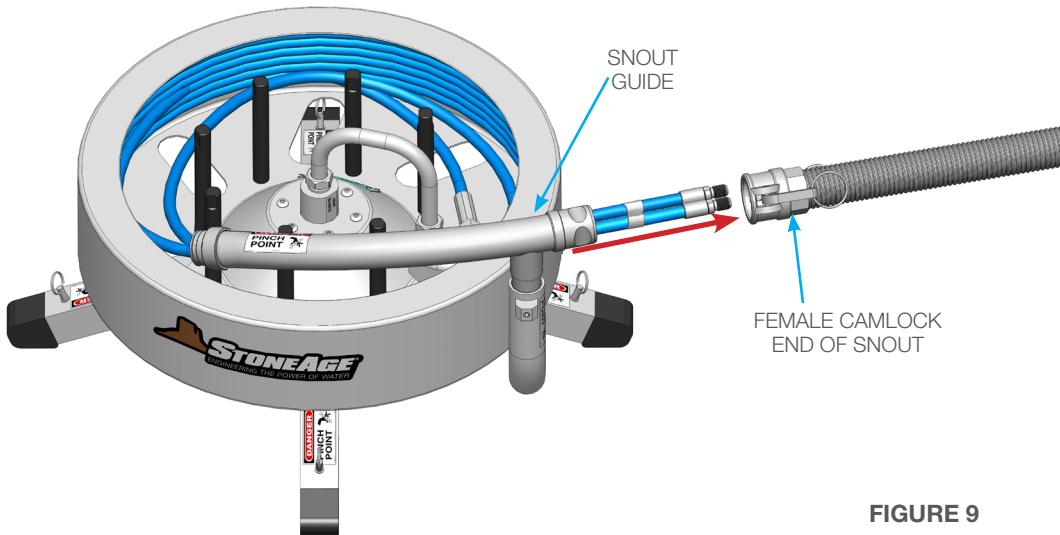

FIGURE 9
3. Continue to push the two hoses through the Snout, then connect the Female Camlock end of the Snout to the Snout Guide. (**Figures 9 & 10**)